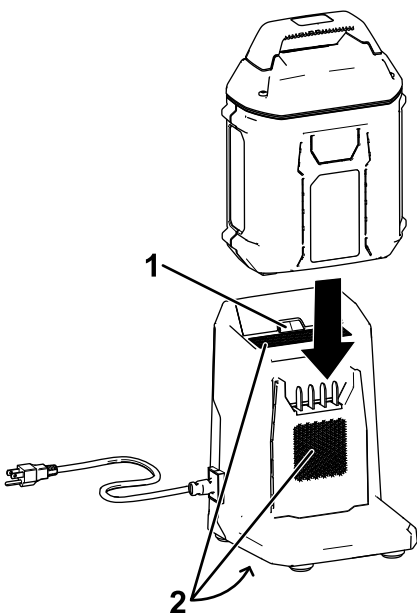

Figure 18
4. Slide the battery pack into the charger until it is fully seated (Figure 18).